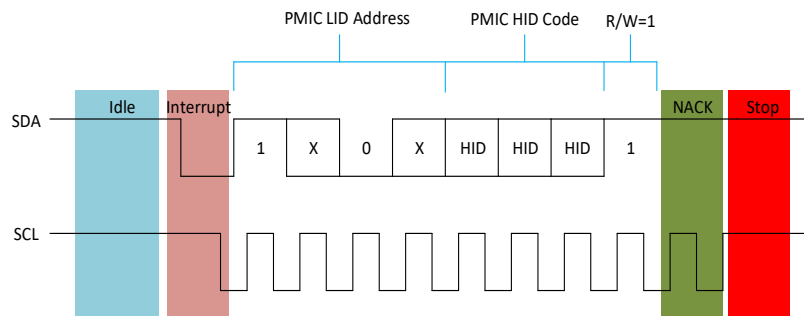

Figure 41 — PMIC Requests Interrupt; Host NACK Followed by STOP
- The Host sends NACK on the 9th bit as shown in Figure 41 followed by a STOP command. In this case, the PMIC does not transmit the IBI payload and waits for the next opportunity to request an interrupt. At this point, though Host sent an NACK, it does have a knowledge of which device sent the IBI request. The PMIC retains the IBI Status flag Table 98, “Register 0x0A” [1] = ‘1’ and Pending Interrupt Bits [3:0] = ‘0001’.